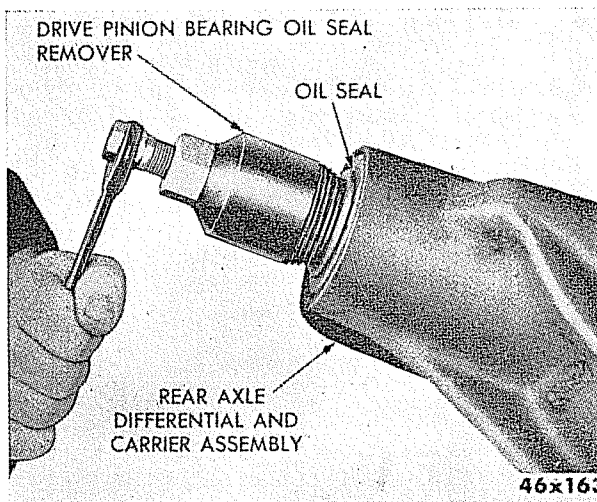

Fig. 26—Removing Oil Seal From Carrier—Tool C-748.
- (3) Remove drive pinion bearing oil seal (Figure 26).